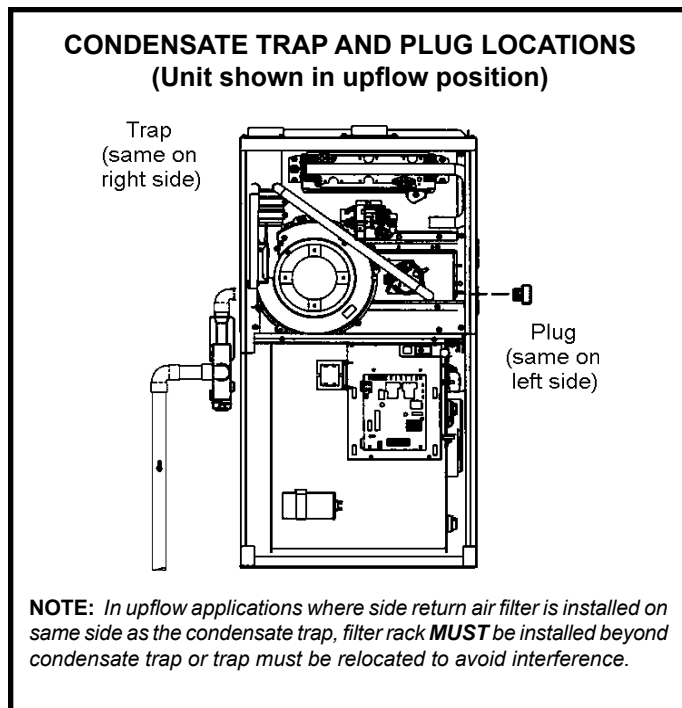
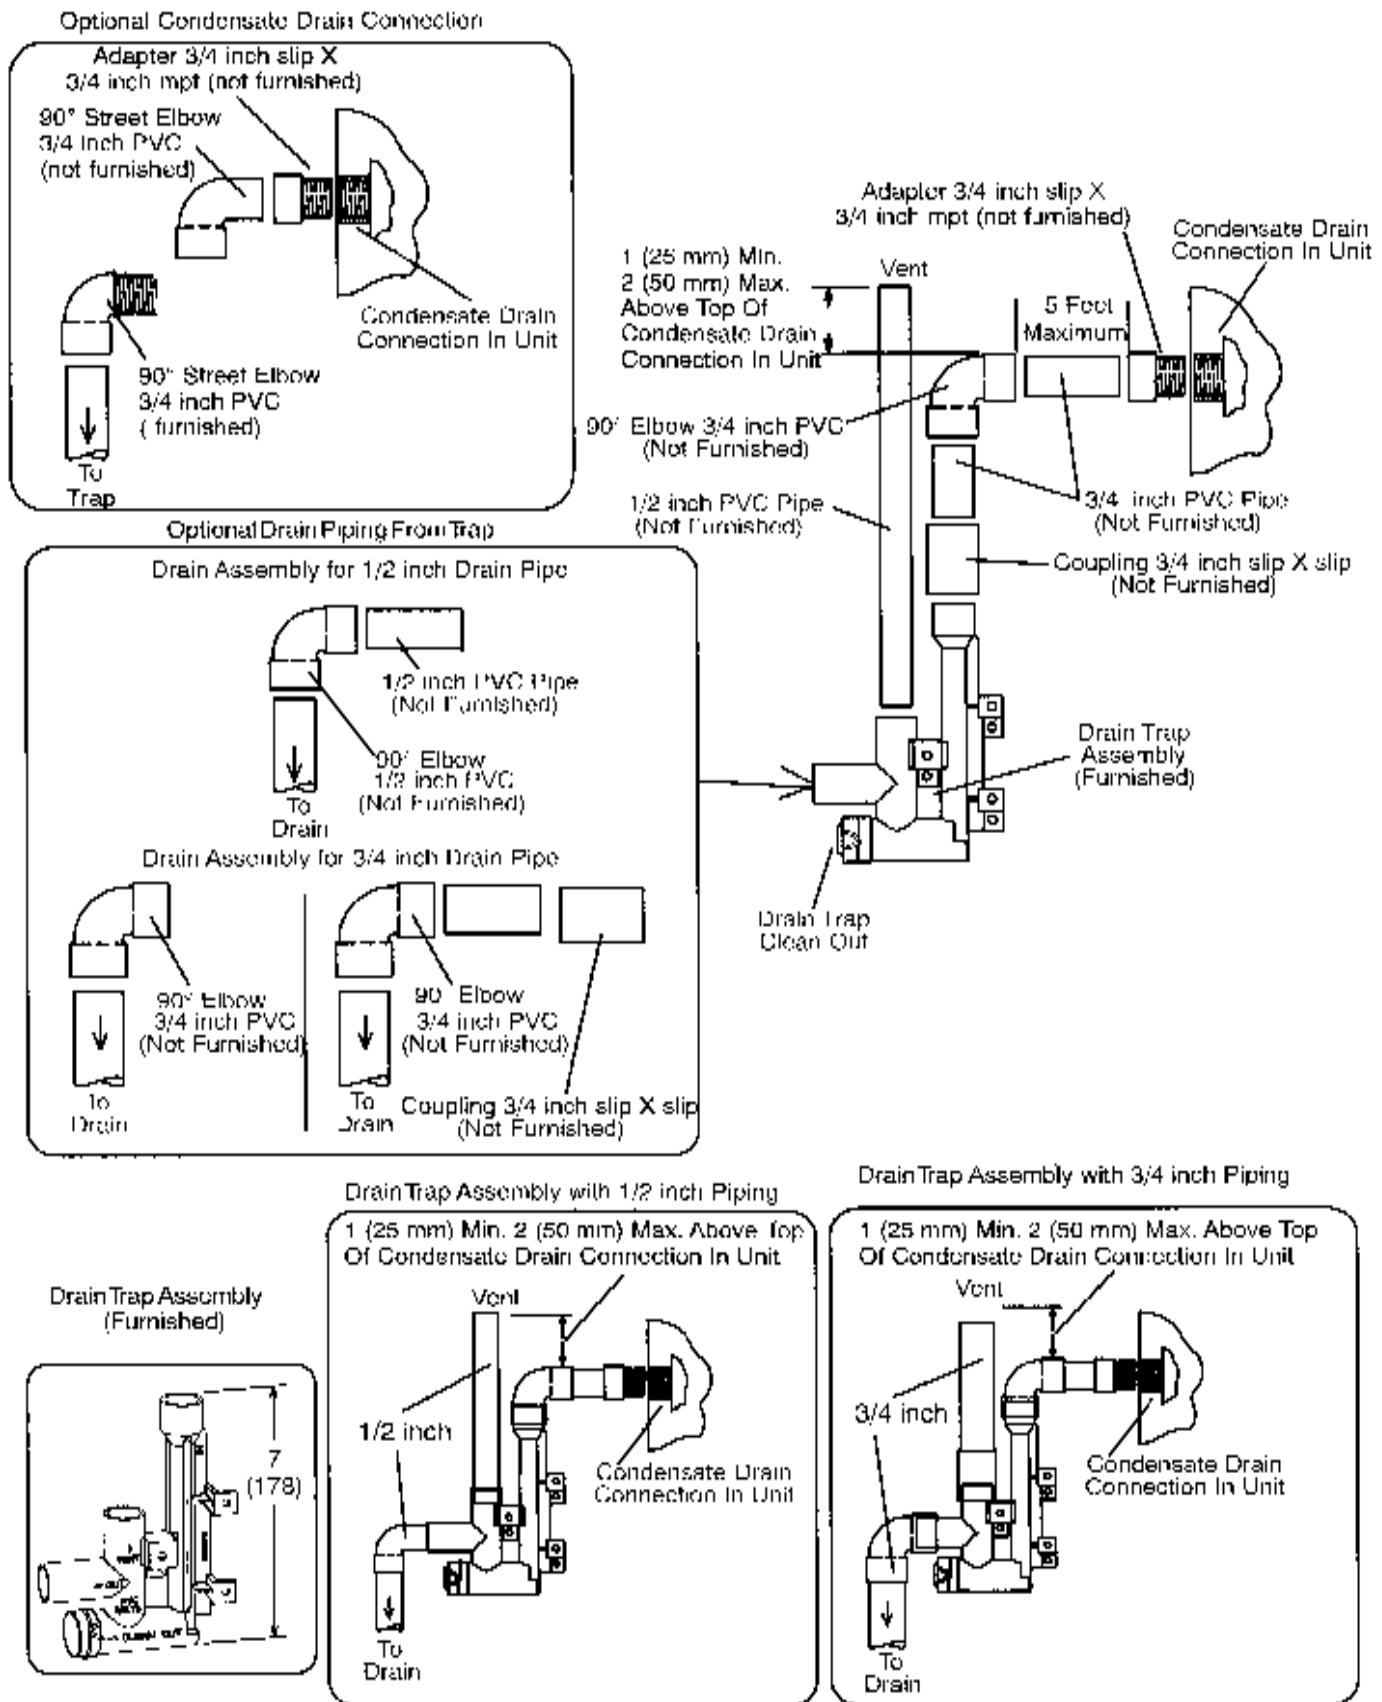

Figure 49
Figure 56
This unit is designed for either right or left side exit of condensate piping in upflow applications. In horizontal applications, the condensate trap must extend below the unit. An 8" service clearance is required for the condensate trap. Refer to Figure 49 and 51 for condensate trap locations. Figure 56 shows trap assembly using 1/2" PVC or 3/4" PVC.
2. Use a large flat head screw driver or a 1/2" drive socket extension and remove plug (Figure 49) from the cold end header box at the appropriate location on the side of the unit. Install provided 3/4 NPT street elbow fitting into cold end header box. Use Teflon tape or appropriate pipe dope.
3. Install the cap over the clean out opening at the base of the trap. Secure with clamp. See Figure 56.
4. Install drain trap using appropriate PVC fittings, glue all joints. Glue the provided drain trap as shown in Figure 56. Route the condensate line to an open drain. *Condensate line must maintain a 1/4" downward slope from the furnace to the drain.*